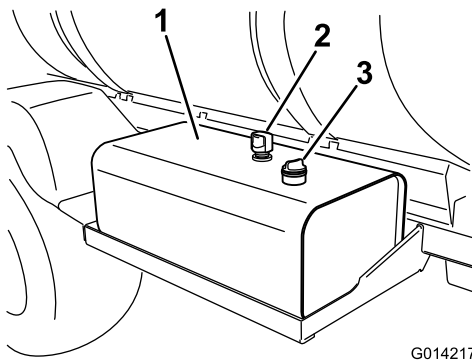

Figure 21
2. Clean the area around the hydraulic-oil-tank dipstick cap and remove it (Figure 21).